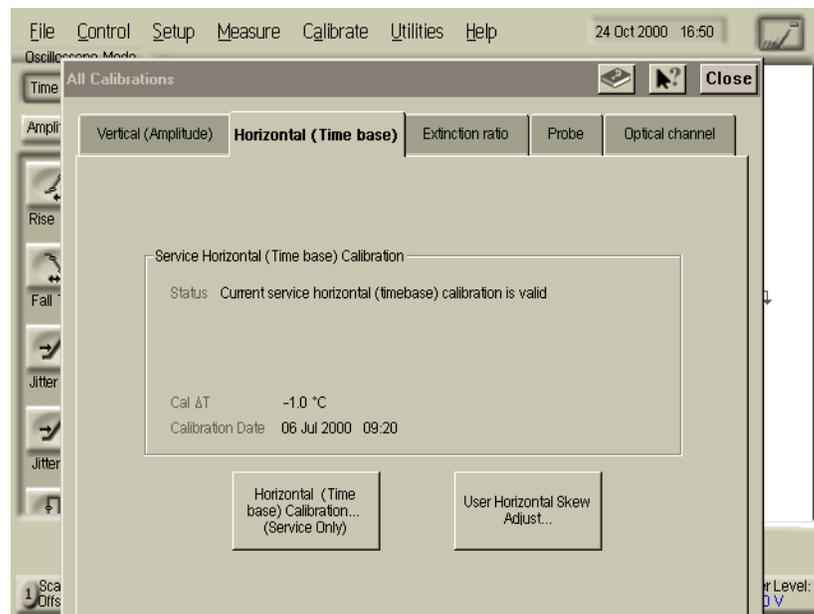

Figure 3-2. Horizontal Time Base Calibration
- 15 On the DCA screen, press Calibrate, All Calibrations, Horizontal (Time base). See Figure 3-2.